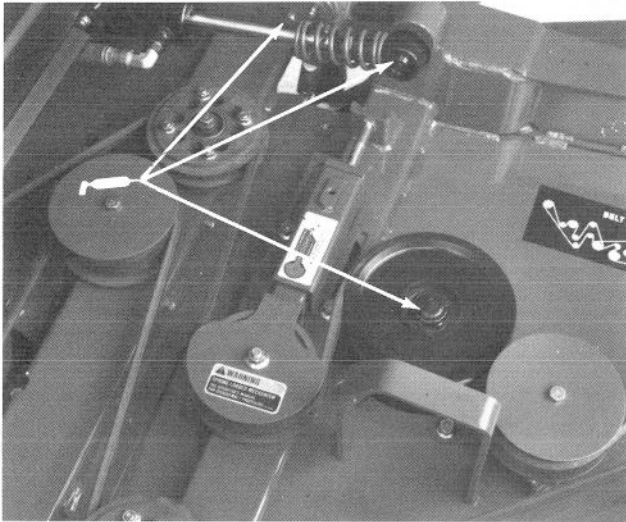

Figure 31
Cutting deck (2 & 4 wheel drive machines) – blade spindles (7), lift cylinder ball joints (4) and Wing Deck Pivot pins (4) (Fig. 31); Castor fork shaft (4) (Fig. 32); PTO to gear box drive shaft assembly (3) (Fig. 34); Wing Deck Ball Joints (4) (Fig. 34) and Lift arm ball joints (2) (Fig. 35).